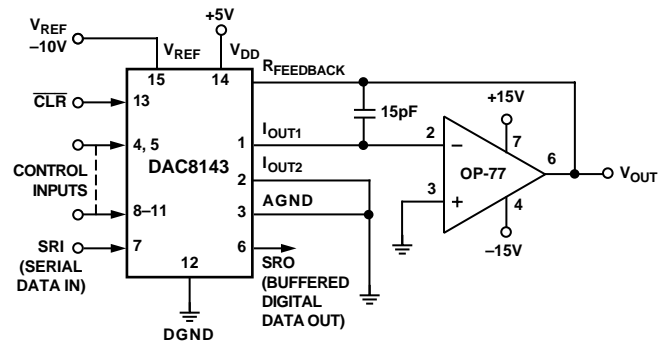

Figure 16. Unipolar Operation with High Accuracy Op Amp (2-Quadrant)
1. Phase compensation (see Figures 16 and 17).
The circuit shown in Figures 16 and 17 may be used with an ac or dc reference voltage. The circuit's output will range between 0 V and $+10(4095/4096)$ V depending upon the digital input code. The relationship between the digital input and the analog output is shown in Table II. The V_{REF} voltage range is the maximum input voltage range of the op amp or ± 25 V, whichever is lowest.
| Digital Input | | Nominal Analog Output (V_{OUT} as Shown in Figures 16 and 17) |
¹Nominal full scale for the circuits of Figures 16 and 17 is given by
²Nominal LSB magnitude for the circuits of Figures 16 and 17 is given by